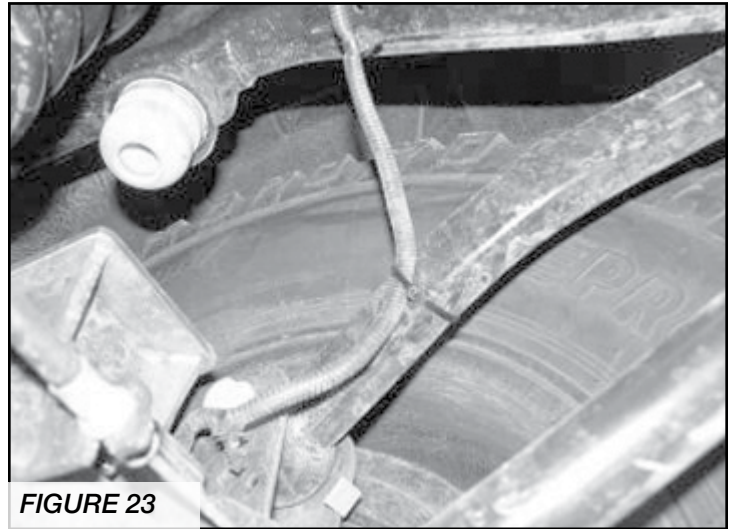

FIGURE 23
27. Reconnect the factory ABS mount to the rear differential and torque to 20 ft -lbs. Route the ABS line in the stock routing and attach the line to the upper link arm with the supplied 8" zip ties. SEE FIGURE 23